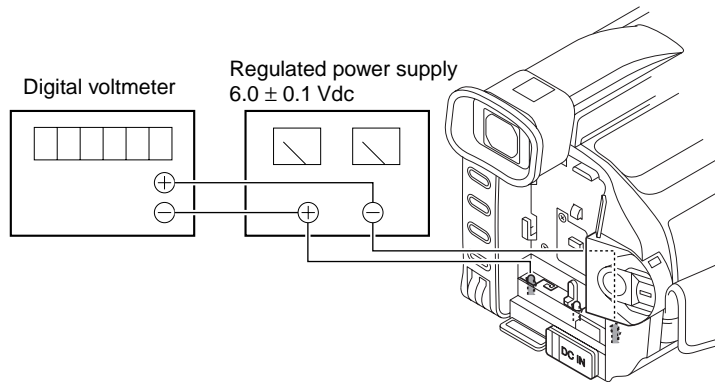

Fig. 6-1-8
- 1) Connect the regulated power supply and a digital voltmeter, as shown in Fig. 6-1-8.